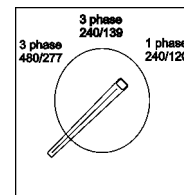

Figure 55. Voltage Selector Switch
- Check the voltage selector switch to desired position. (Figure 55).